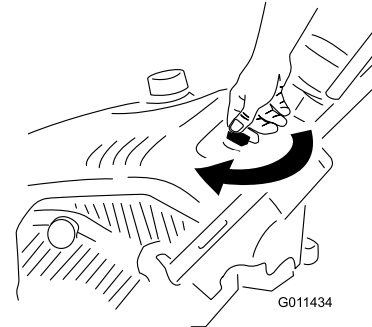

Figure 13
1. Turn the ignition key clockwise to the ON position (Figure 13).